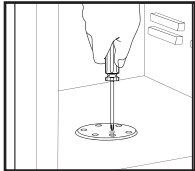

Figure 1
2. Locate the mounting hole cover plate on the inside floor of the safe. Remove the (6) screws securing the plate and set aside. (Figure 1)